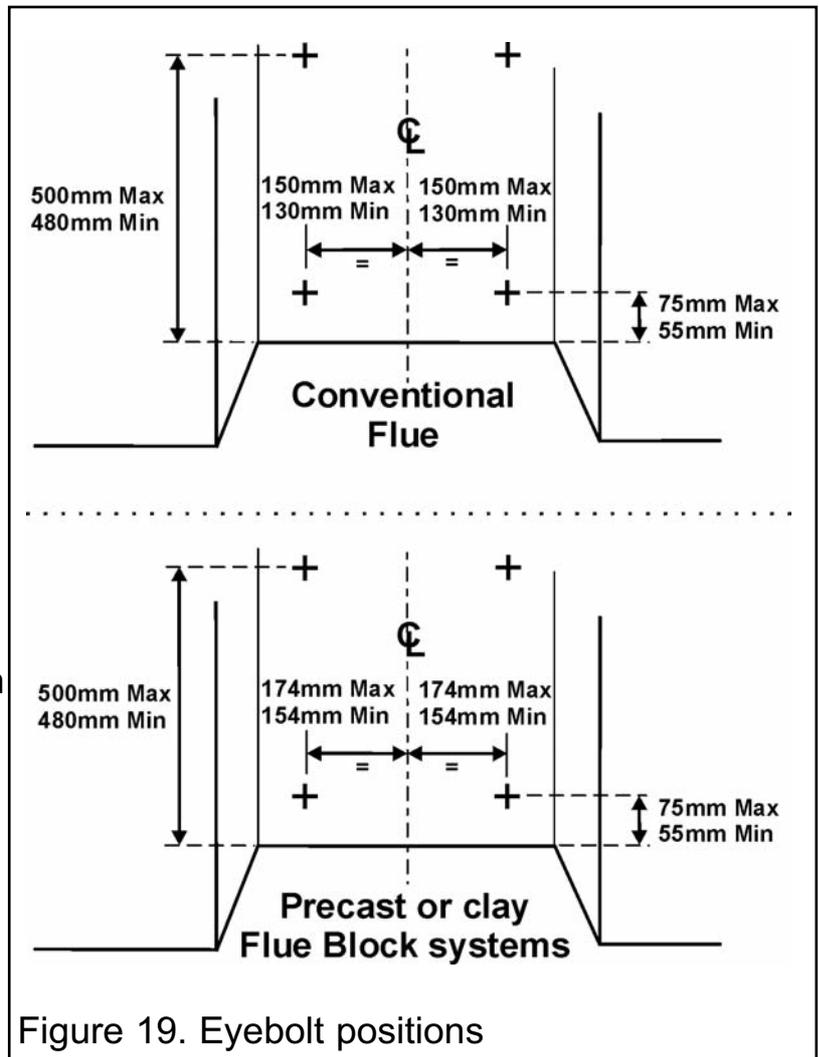

Figure 19. Eyebolt positions
2. Drill four holes in the rear wall of the fireplace for the fibre plugs. The holes should be drilled within the range of positions shown in figure 19 using a suitably sized masonry drill bit. The holes should be equidistant each side of the centre line of the fireplace to ensure that the appliance finishes centrally in the opening when tension is applied to the cables.